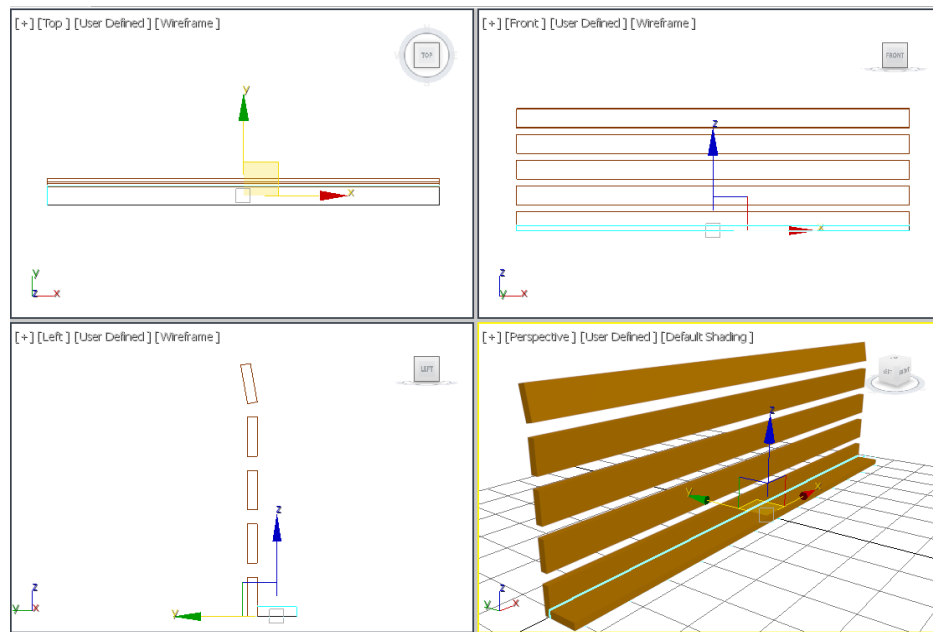

Figure 2-74 Alignment of horizontal seat support001 in viewports
6. Choose the **Select and Move** tool from the **Main Toolbar** and align *horizontal seat support001* with *horizontal back support* in the viewports, refer to Figure 2-74.